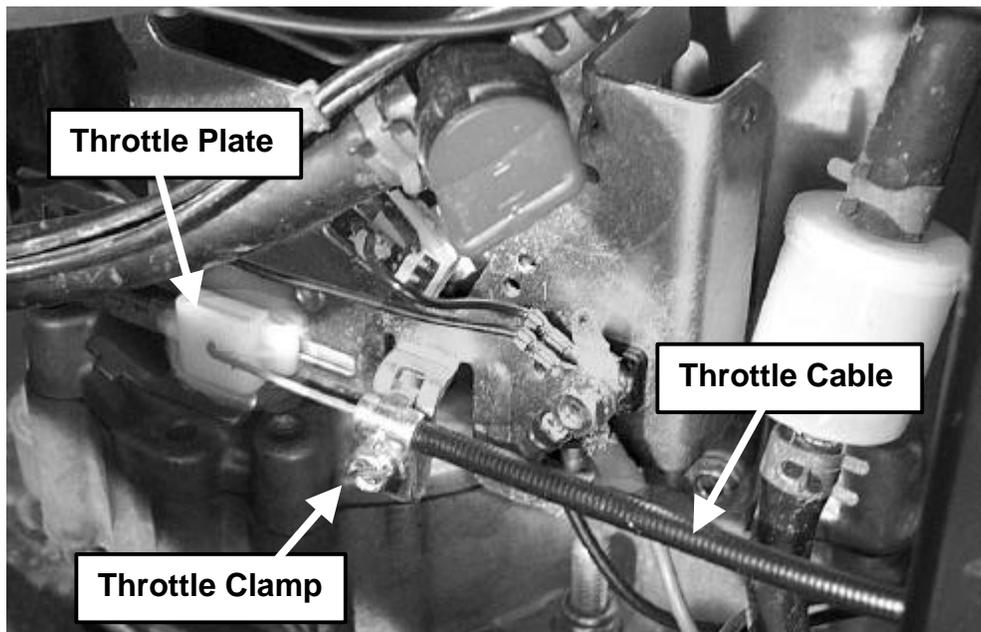

Figure 20: Throttle Hook-up - Engine
2. Use wrench or socket to loosen the screw on the throttle cable clamp (Bowden clamp) so that the throttle cable can slide below it. It is not necessary to remove the clamp (*Figure 20*).